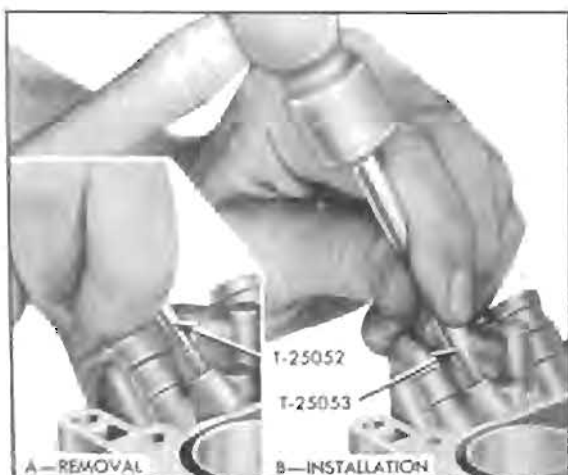

Figure 3-66—Removal and Installation of Ball Plugs
If the passages in main body appear to be heavily fouled with carbon or gum it is advisable to remove the lead ball plugs so that the cleaning solvent can penetrate and wash through the channels. Lead ball plugs may be removed with Plug Remover T-25052, using care not to damage the plug seats in body. See figure 3-66, view
A. Install new ball plugs after cleaning is completed, using Plug Set T-25053 to swage plug into its seat. See figure 3-66, View B.